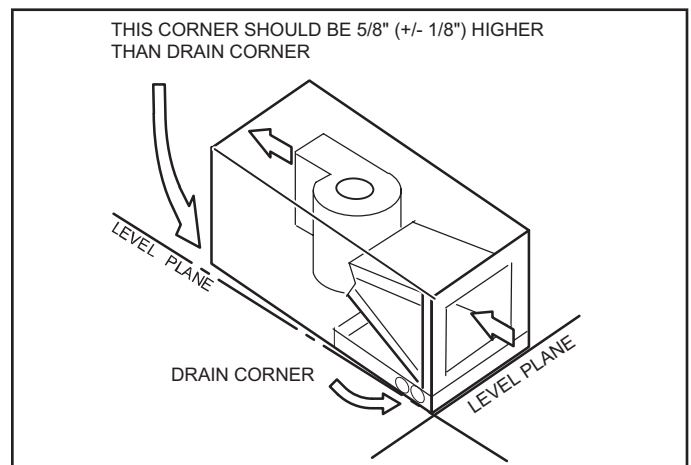

FIGURE 14. Sloping the Unit for Proper Drainage
- 3 - Set unit so that it is sloped toward the upflow drain pan end of the unit and level from front to back of unit (see figure 14).
Make sure the unit is sloped (similar to the slope shown in figure 14) so that the drain pan will empty completely without water standing in the pan.